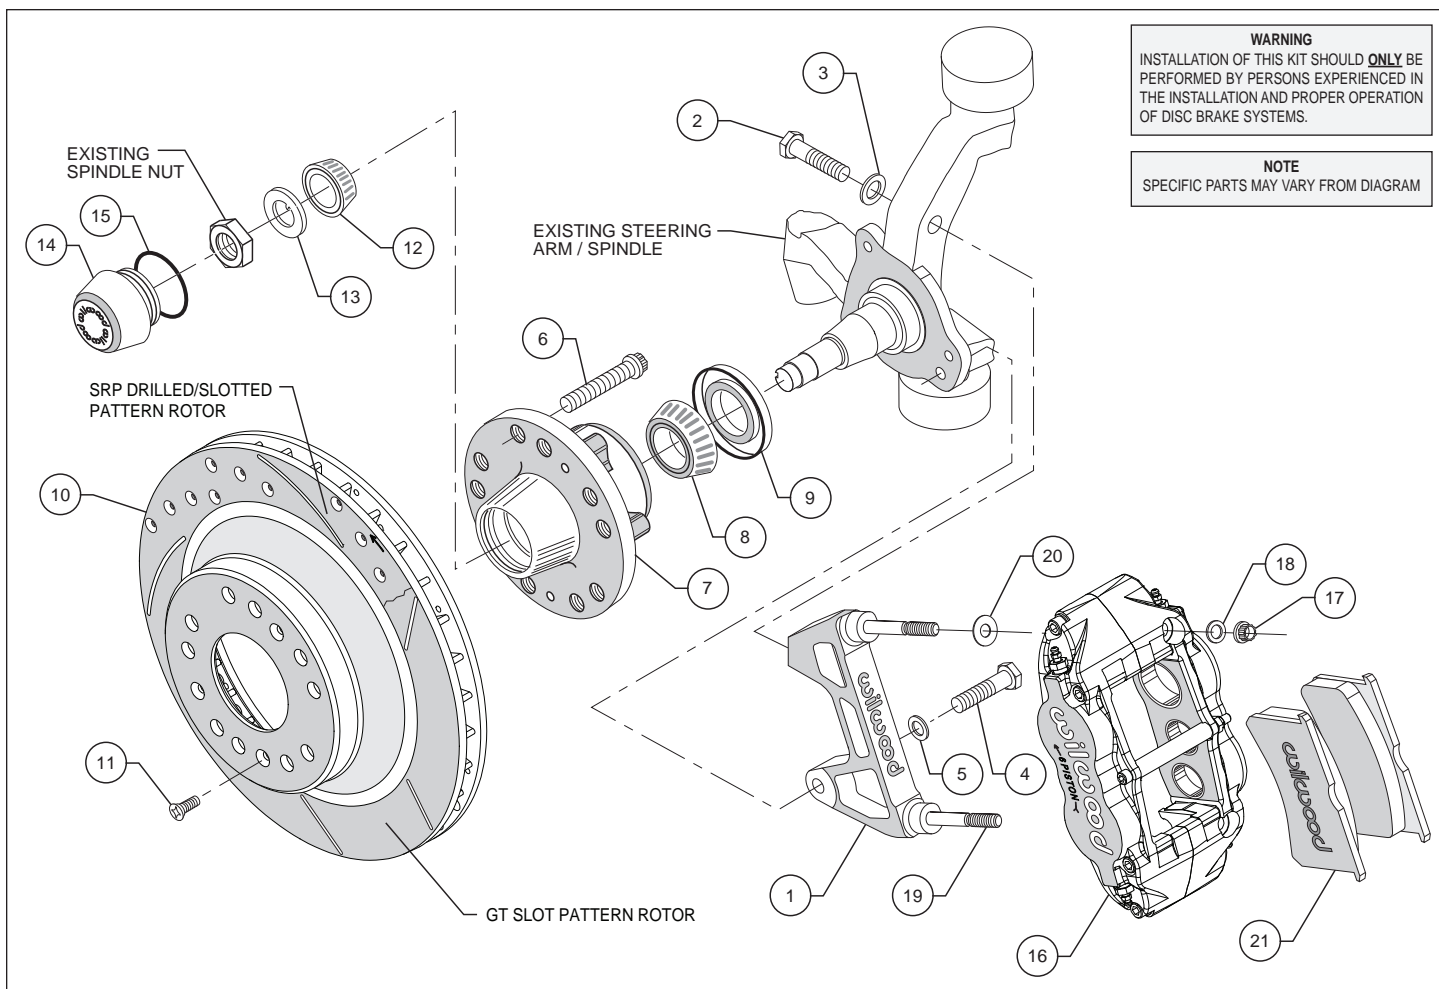

Figure 1. Typical Installation Configuration
Assembly Instructions (numbers in parenthesis refer to the parts list on the preceding page, and Figure 1):
- The caliper mount bracket (1) should initially be installed with clean, dry threads on the mounting bolts. Orient the bracket as shown in Figure 1, and install using bolts (2/4) and washers (3/5). Temporarily tighten the mounting bolts. **NOTE:** *The bracket must fit squarely against the mount bosses on the upright.* Inspect for interference from casting irregularities, machining ridges, burrs, etc. After the bracket fitment has been checked, remove the bracket bolts one at a time and apply red *Loctite*® 271 to the threads. Torque bolt (2) to 65 ft-lbs., and bolt (4) to 50 ft-lbs.
- Install wheel studs (6) into the hub (7), Photo 1. Torque to 77 ft-lb. **NOTE:** *There are two five lug patterns in the hub (5 x 4.50 and 5 x 4.75).* Ensure the correct hub stud pattern is being used to fit the wheel application.
- Pack the large inner bearing cone (8) with high temperature disc brake bearing grease (available from your local auto parts store) and install into the backside of the hub (7), Photo 2.
- Install the grease seal (9) by pressing into the backside of the hub (7), flush with the end of the hub, Photo 2.
- Pack the small outer bearing cone (12) with high temperature disc brake bearing grease and install into hub (7). Slide the hub assembly onto the spindle. Secure using spindle washer (13) and OEM spindle nut, Photo 3. Adjust bearings per OEM specifications. Install saved OEM nut lock (if any) and a new cotter pin (not included).
- Screw dust cap (14) into hub (7), Photo 4. Friction created by the o-ring (15) on the dust cap keeps it from unscrewing. **NOTE:** *The O.D. of the existing OEM spindle washer may be larger than the I.D. of the dust cap not allowing it to seat against the hub face. Therefore, use the spindle washer (13) supplied with the kit instead of the OEM washer.*
- Slide the hat/rotor (10) onto the hub (7) taking care to align the small countersunk holes in the hat with the small threaded holes in the hub. **NOTE:** *The hat must fit flush against the hub face or excessive rotor run out may result.* Install three flat head screws (11) through the small holes in the hat (10), Photo 4, and torque to 85 in-lb.
- NOTE:** *This kit contains distinct right and left hand calipers that must be mounted in a specific direction, as described below.* Lubricate the caliper mounting studs (19) with lightweight oil. Initially place one .035" thick shim (20) on each stud between the caliper and the bracket, as shown in Figure 1 and Photo 5. Mount the caliper (16) onto the bracket (1) using lock nuts (17) and washers (18), Figure 1. Ensure that the caliper is mounted so the largest pistons are at the rotor exit end of the caliper, in relation to the direction of rotor rotation. Temporarily tighten the lock nuts.